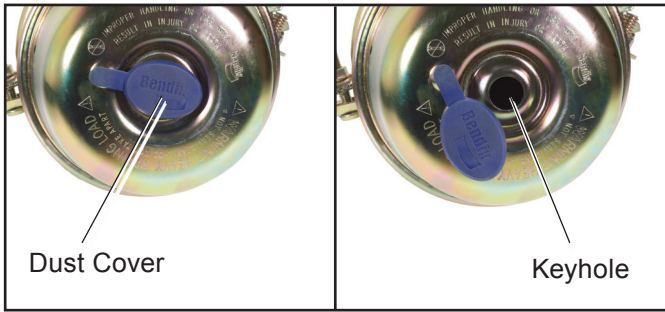

Figure 2 – Dust Cover Removal
2. Remove the dust plug or weather seal from the keyhole located at the rear center of the spring brake chamber. See Figure 2.